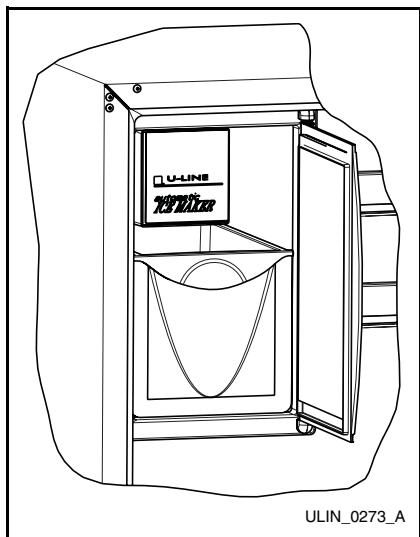

Figure 11
1. Remove the ice maker assembly cover (Figure 11).